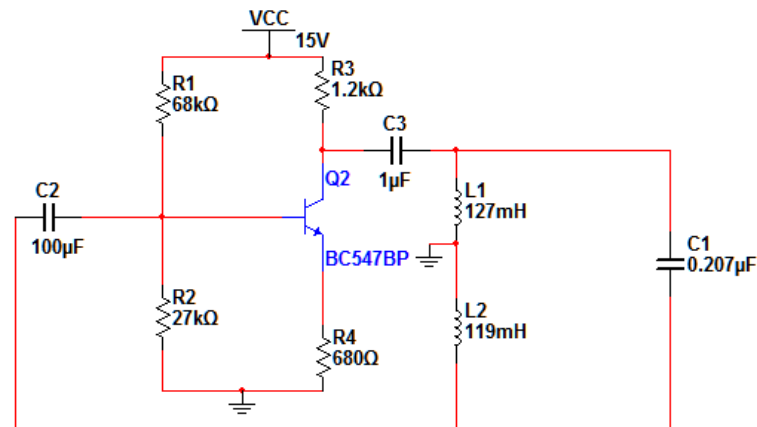

Figure 1: Hartley Oscillator
1. Make a circuit as shown in figure 1. Select proper values of C1, L1 and L2.